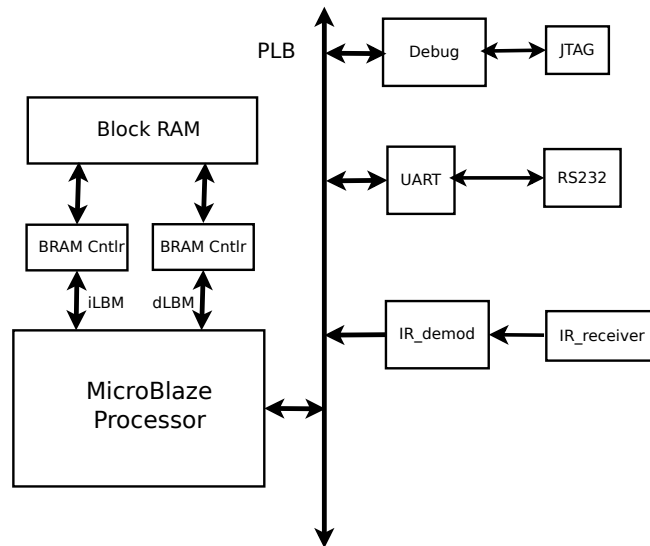

Figure 1: Hardware/Software System Diagram
- (a) Use the Base System Builder to create a MicroBlaze system with everything shown in Figure 1 except the IR hardware. Configure the MicroBlaze as follows: